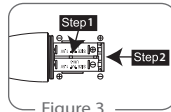

Figure 3
2. Insert two 1.5V batteries according to the correct polarity (Step 1 of Figure 3) and return the battery tray to housing (Step 2 of Figure 3).